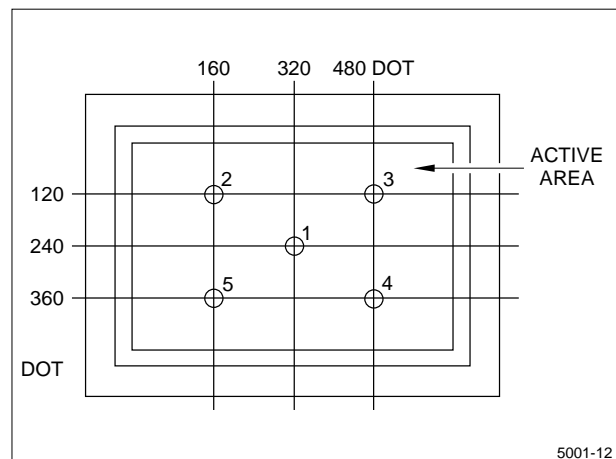

Figure 12. Measuring Points (1 to 5)
**NOTE:** Ratings are defined as the average brightness inside the viewing area specified in Figure 12.